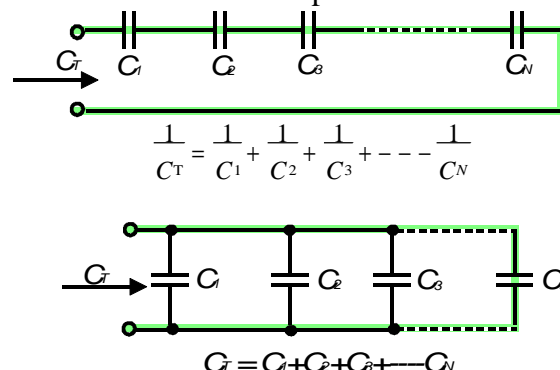

Figure 6, Capacitors in Series and Parallel
Capacitors are components that are made up of two parallel conducting plates separated by an insulating material. A capacitor stores a charge on its plates. The storage capacity C is measured in Farads (F). The farad is generally too large a unit for most tuner applications so the pico farad (pF) 10^{-12} F is used. Total capacitance is calculated in the opposite manner as inductance, figure 6. Capacitors in *parallel increase* total capacitance and capacitors in *series decrease* total capacitance.